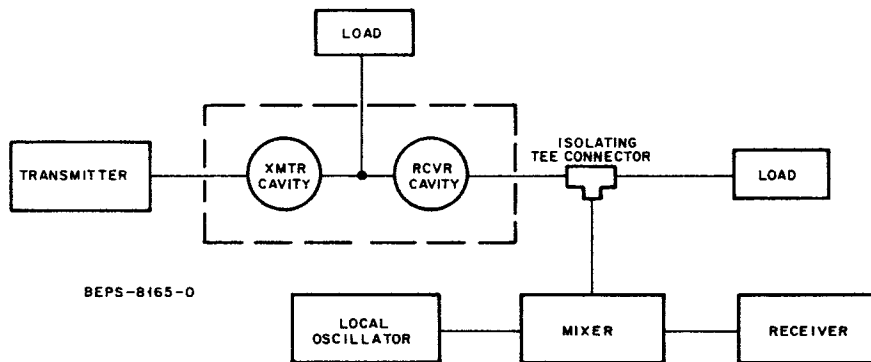

Figure 11. Method 2 Receiver Branch Reject Test Set-Up
Step 9. Connect the equipment as shown in Figure 11.